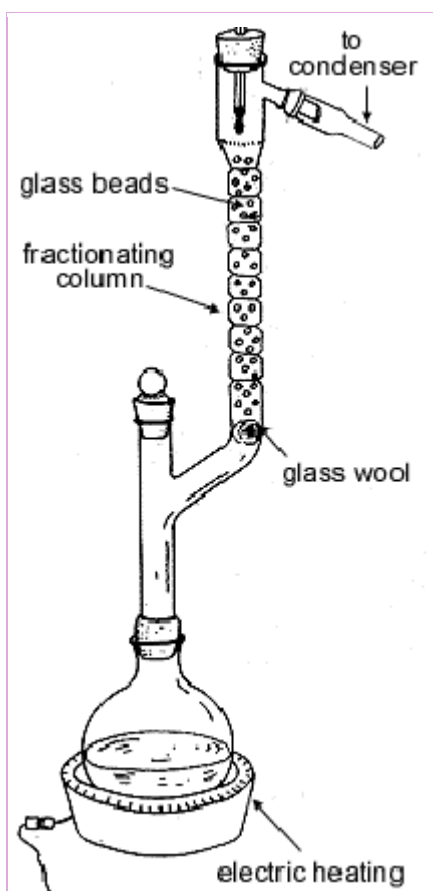

Fig 5: Fractional Distillation
**Fractional distillation** is the process of separating two or more miscible liquids by a modified distillation process, in which the distillates are collected as *fractions* having different boiling points. The separation of the liquids by this method is based on the difference in their boiling points. (Fig. 5)